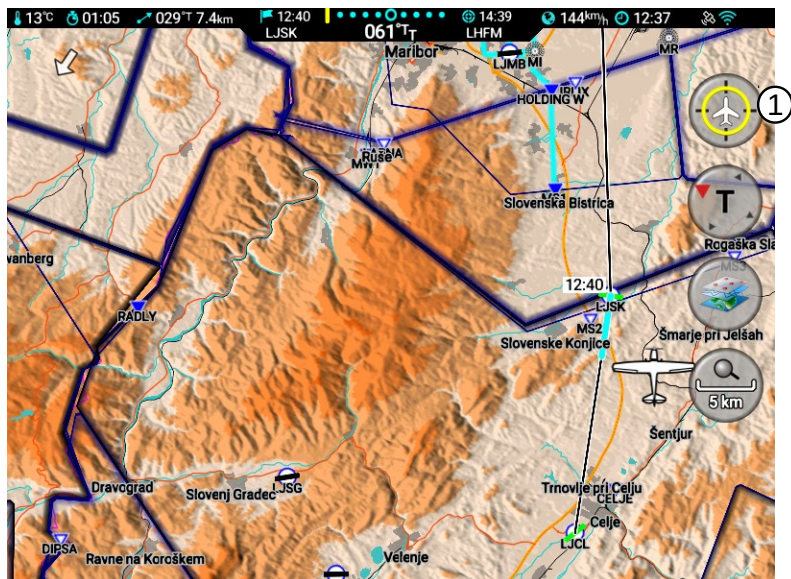

Figure 7: Illustration of the navigation screen in the pan mode.
the map is in the pan mode, it can be easily moved around. Figure 7 shows an example.
A touch on the home button, marked as ① on the Figure 7, brings back the standard navigation map.